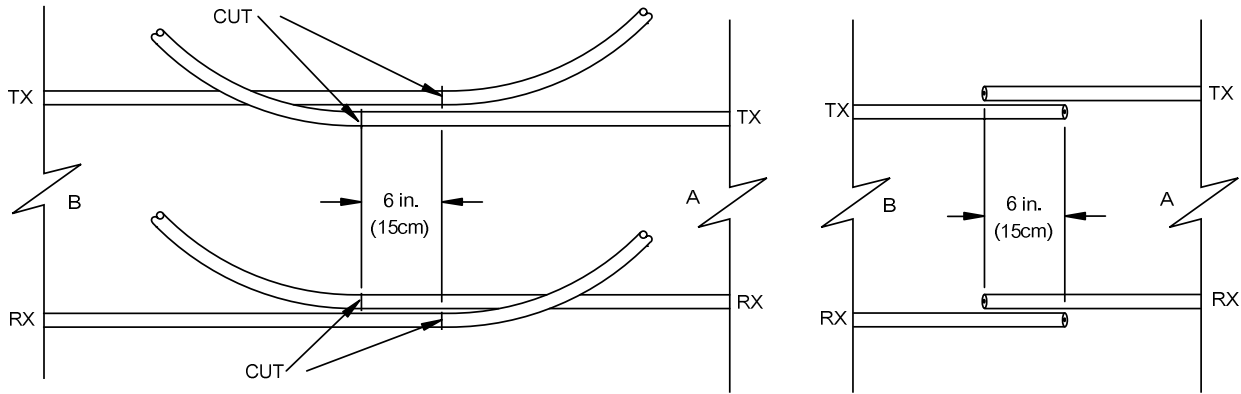

Figure 6.19 –Preparing Cables for MTI
The assembly instructions for the MTI are shown in the following steps 1 through 10 and as illustrated in Figures 6.19 to 6.24.
- **Step 1:** Lay all 4 cables back in the trenches. Pull the cables tight. Cut the cables to a length that leaves an extra 6 inches (152mm) of cable when brought end-to-end. Insure that both inline terminators are located directly across from each other as shown in Figure 6.19.